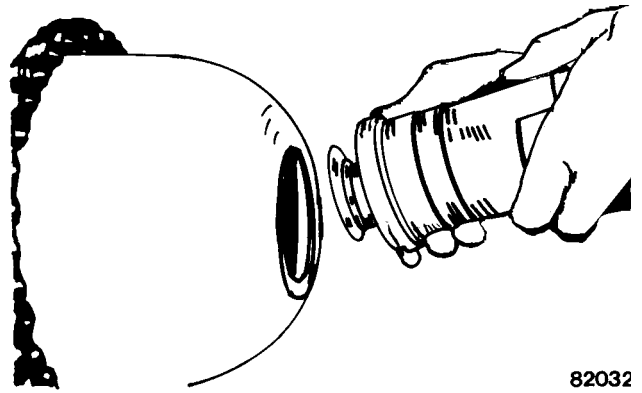

FIGURE 3-19. PLUG AND POPPET REMOVAL
8. Remove plug and poppet assembly from shell. (Refer to Figure 3-19.)